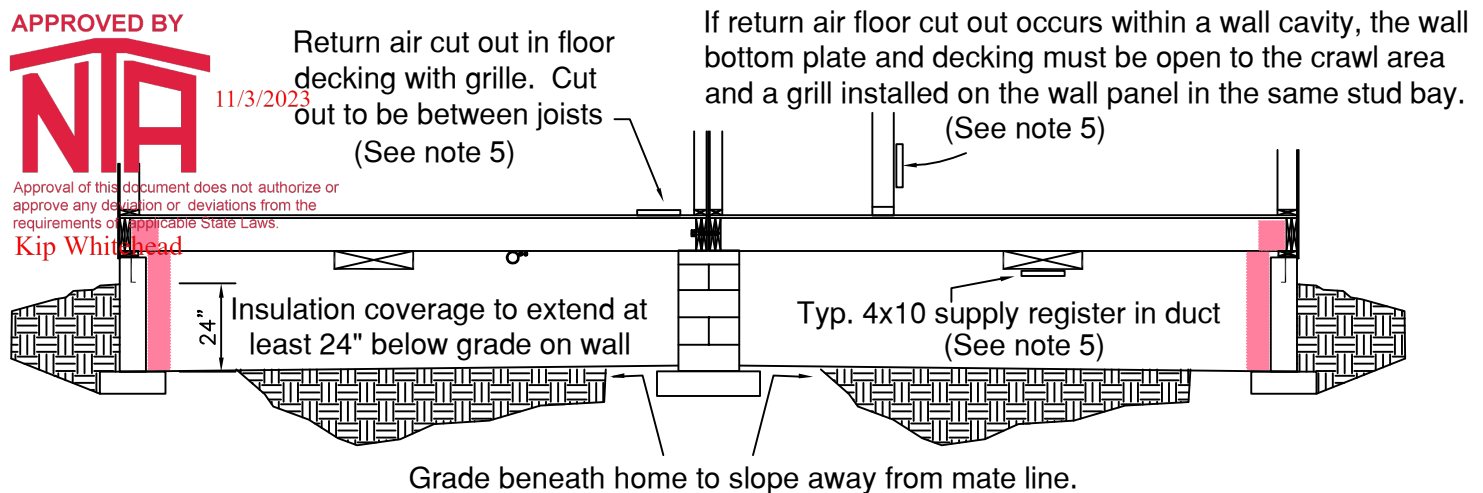

Fig. 3.1 - Un-Insulated Floor / Conditioned Crawlspace
Conditioned crawlspace construction is a practical choice to consider (Fig. 3-1). Where homes are built to comply with 2018 and earlier editions of the IECC, conditioned crawlspaces do not require on-site duct testing. **Duct testing became a requirement regardless, for homes built for compliance as per the 2021 IECC.**
4. Insulate the perimeter foundation walls. The minimum required insulation will vary according to the site location. Refer to the Rescheck analysis included with the approved plan package provided with the home or to local code requirements to determine the minimum required perimeter wall insulation. See Fig. 3.1 for minimum insulation coverage below grade.
5. Install heating register(s) and return air grille to condition the crawlspace area. Generally, (1) 4x10 register for supply air and (1) 4x10 grille for return air is adequate to accommodate conditioning of the air in the crawl space, unless home is located in areas with extreme temperatures. Locate the supply and return air openings as remote from each other as possible to allow circulation of air across the entire crawl space area. Consult your local official for requirements and/or other acceptable methods to condition the space when floor is not insulated.